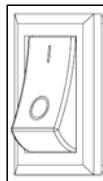

Figure 8
- A.**Default setting-The Motion Sensor switch will be in the “O” position by default. This will control the fixture the module is in, and every fixture connected in series to it. See figure 8.
- B.**Alternative setting-When the Motion Sensor switch is in the “I” position, the Motion Sensor will only control the fixture the module is in, and NOT the fixtures connected in series with it. See figure 8.
b.Alternative setting- Motion Sensor will control fixtures in series that have been daisy-chained. Please note that when the switch is in “O” direction, the motion sensor is not in the default setting. See figure 8.